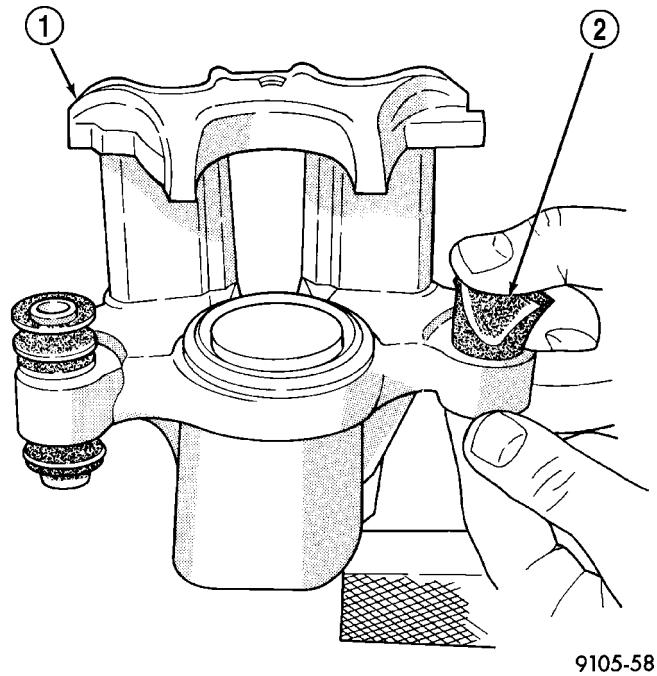

Fig. 45 Removing Bushing From Caliper
(2) Using your fingers, collapse one side of the rubber guide pin bushing. Pull the guide pin bushing out the other side of the brake caliper mounting boss (Fig. 45).